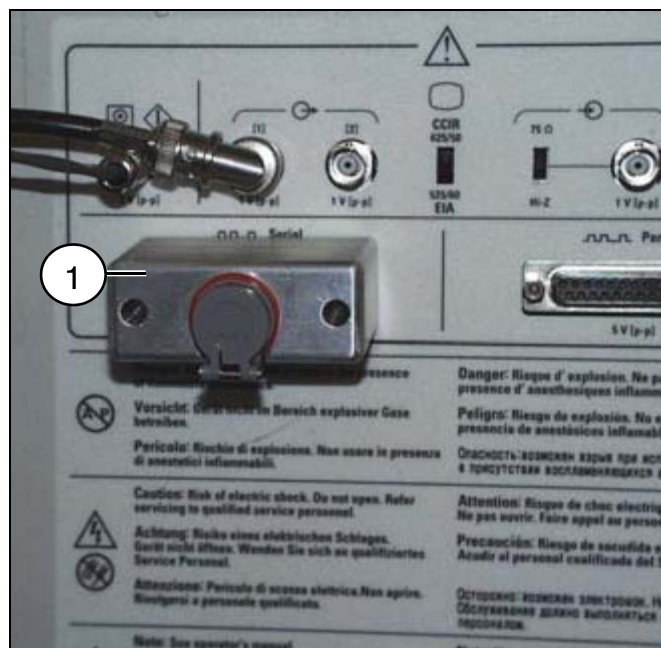

Fig. 40: SONOLINE Adara
- Secure the connector adapter (1/Fig. 40 / p. 37) to the serial interface.